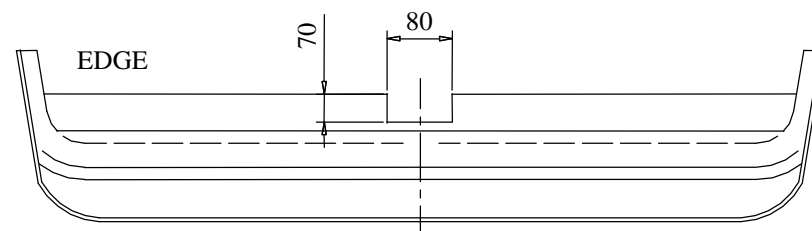

Fig. 2
3. Position the main bar of the towbar (pos. 1) to chassis members and fix it through the original holes using bolts M10x1,25x35mm (pos. 8).
4. Through the hole (pos. A) and original towing eye fix using bolt M12x120mm (pos. 6) together with washers (pos. 5) and distance sleeve ø25xø13mm, L=59mm (pos. 4).
5. Cut the bumper according to the fig.2, then reassemble it.